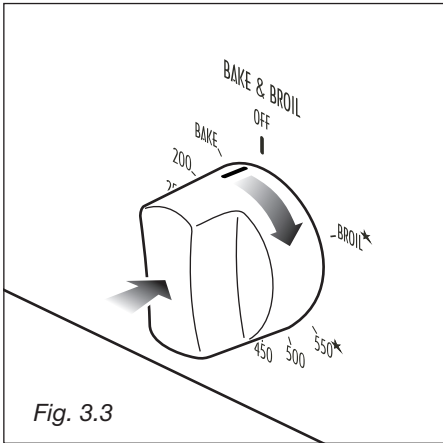

Fig. 3.3
- 2) Press the oven control knob right down and, keeping it pressed, turn clockwise (fig. 3.3) to the **BROIL*** position.